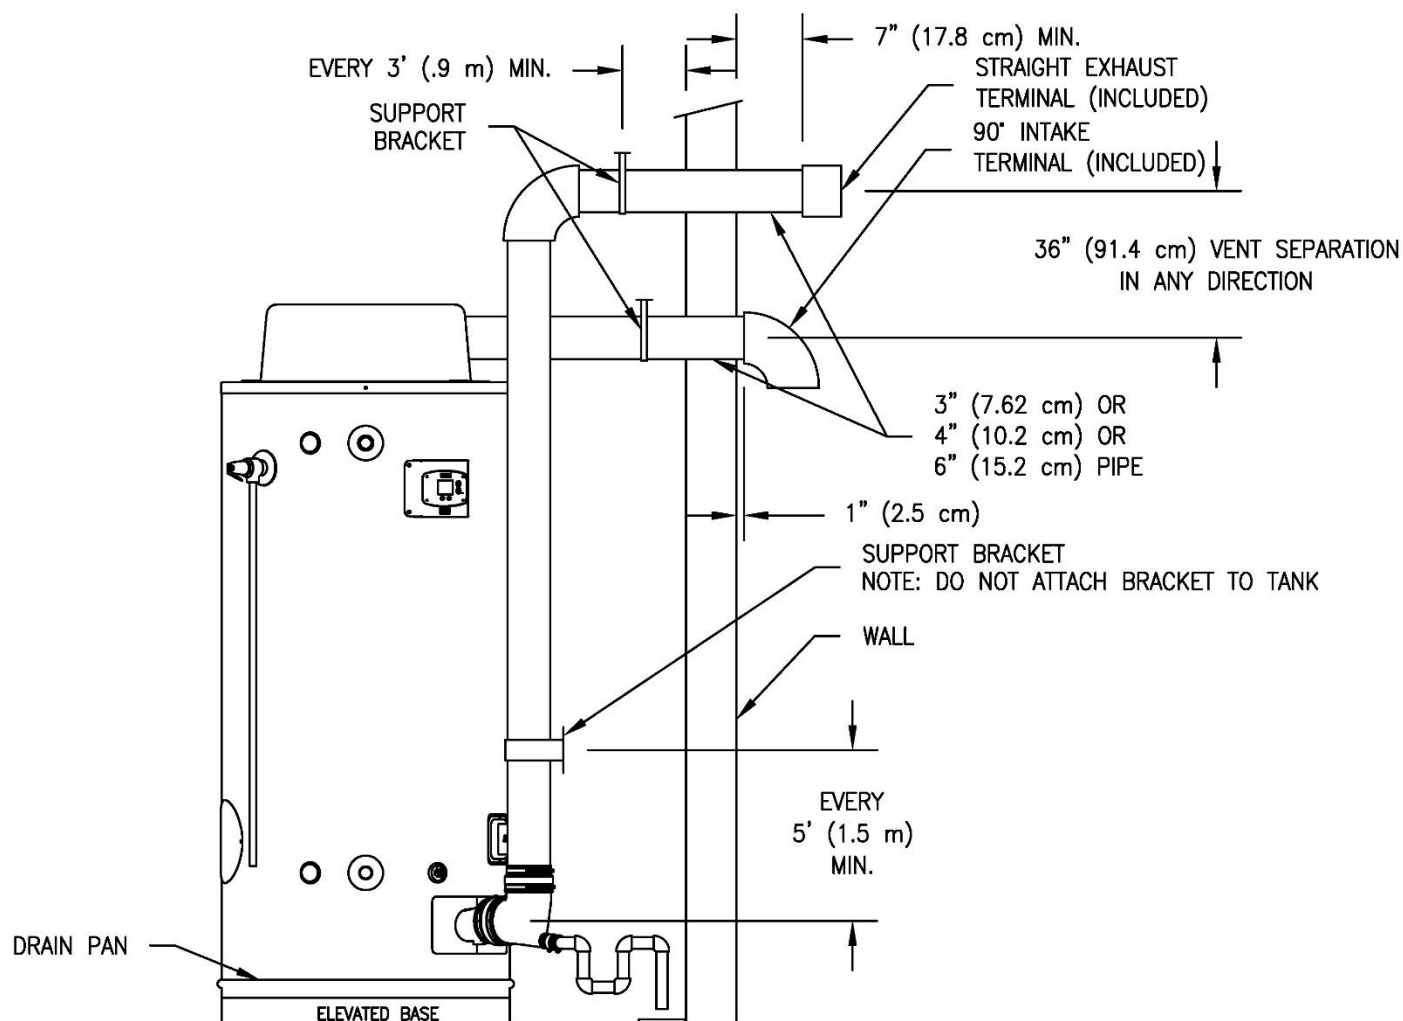

Figure 12 – Typical Horizontal Power Direct Vent System
2. Use the proper cement to secure the exhaust vent and air intake terminals provided with the water heater to the pipes. The distance between the back edge of the exhaust vent terminal and the exterior wall (see Figure 12) must be 6 in (15.2 cm) more for the exhaust vent terminal than the air intake terminal. Use the proper cement or sealant and assembly procedures to secure the vent connector joints between the terminal and the blower outlet. Provide support brackets for every 3 ft (.92 m) of horizontal vent beyond the intake terminal.